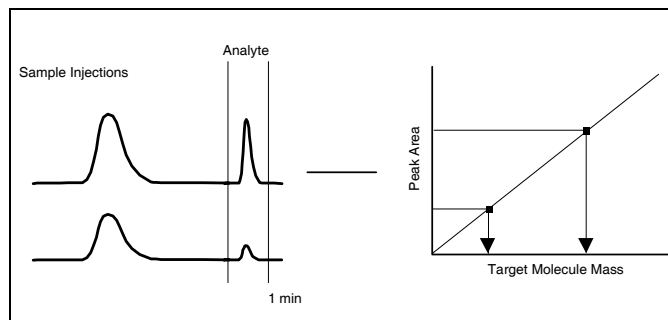

Fig. 8 Determining sample mass
7. Interpolate the analyte mass in the sample from the standard curve (Figure 8 on page 5).